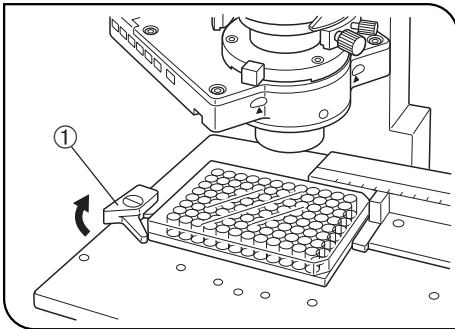

Fig. 9
With the IX-MVR Mechanical Stage + IX2-SP Stage (Figs. 9 & 10)
- 1. Open the spring-loaded finger of the specimen holder ① and slide the microtiter plate into the holder frame. Gently release the curved finger to clamp. (Fig. 9)